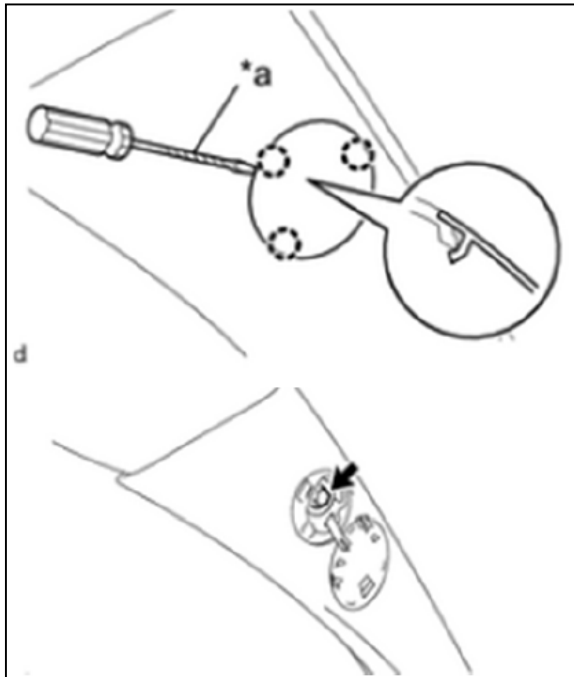

Figure 4
4. Using a screwdriver with its tip wrapped in protective tape, disengage the 3 claws to open the cover. Remove the bolt See Figure 4.